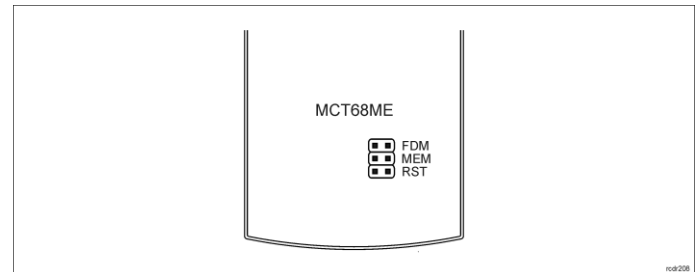

Fig. 2 Service contacts
In RACS 5 v2 system the reader can be installed at site without previous configuration. According to AN006 application note, its address and other settings can be configured from VISO v2 management software and during such configuration the access to its service contacts (fig. 2) is not required.
2. Place jumper on MEM contacts (fig. 2)
2. Place jumper on FDM contacts (fig. 2).